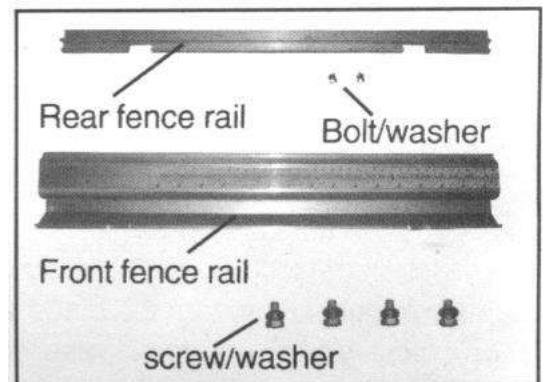

Fig.3
Install the rear fence rail to the table with (4) M6-1.0×20 hex bolt and (4) flat washer M6(Fig.3)
Install the front fence rail to table with (4) screw and (4) flat washer M8 (Fig.3).
b) Remove the rip fence rail from the front of the table by releasing the 4 thump screws (Fig.3 on page 5).
i) Replace the rip fence guide, and retighten the 4 thump screws (Fig.3 on page 5).